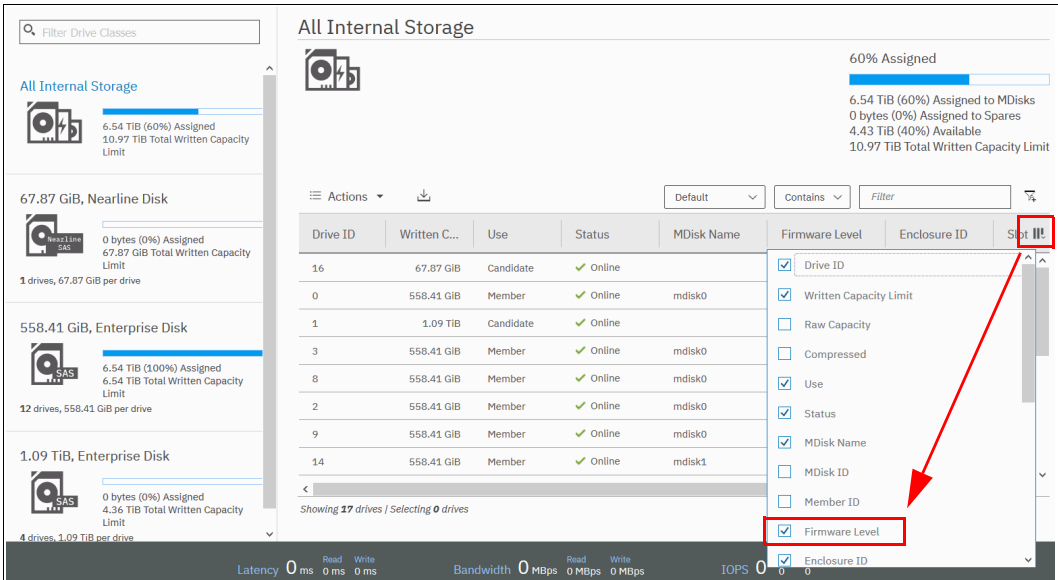

Figure 13-30 Viewing drive firmware levels
6. You can view each drive's firmware level in the Pools Internal Storage All Internal window by enabling the drive firmware option after right-clicking in the column header line, as shown in Figure 13-30.